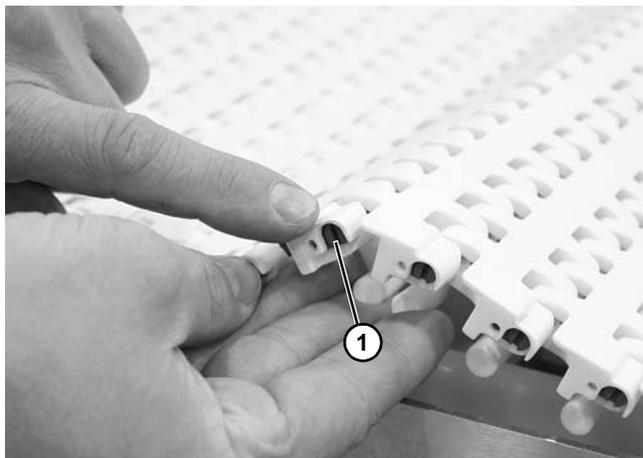

Figure 27
2. Lift up the belt near the tail end of the conveyor, or near a straight section. Locate the rod head with a slot (Figure 27, item 1).